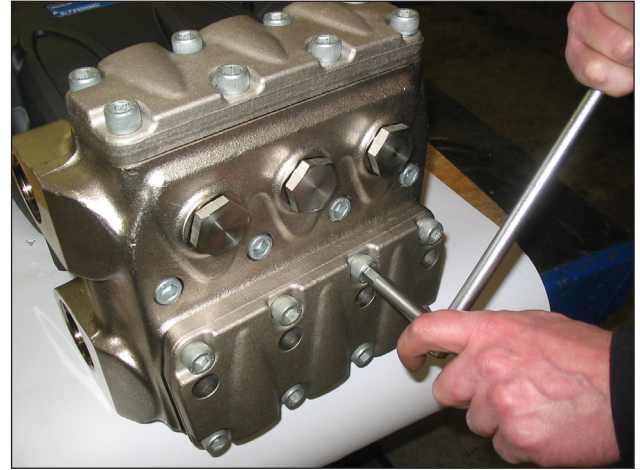

Fig. 34
- Unscrew the 8 M12x35 valve cover fixing screws and remove the covers (Fig. 34).